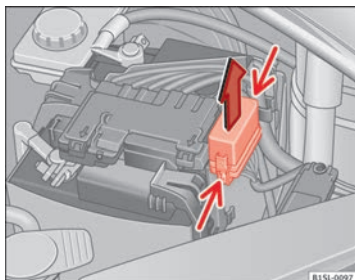

Fig. 148 In the engine compartment: fuse box cover
- Press the attachment tabs in the direction indicated by the arrow (thin arrows) to release the fuse box cover ⇒ Fig. 148.